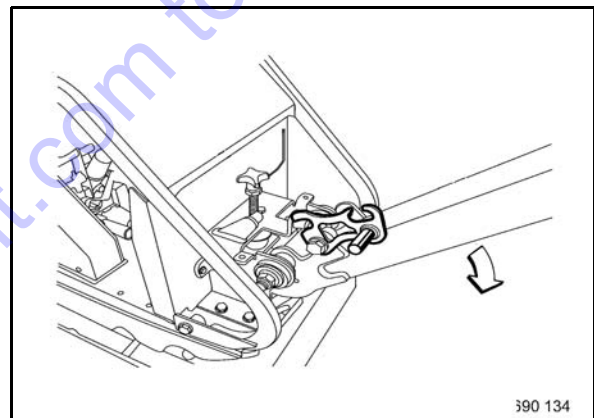

Fig. 21
- Pull the locking lever (Fig. 21) up and fold the steering rod down.